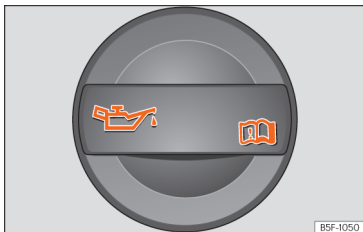

Fig. 177 Oil filler cap cover in the engine compartment.
- Locate the engine oil filler cap. It can be recognized by the symbol  on the cover >>> **Fig. 177**.
- Unscrew cap from the oil filler mouth >>> **Fig. 177**.